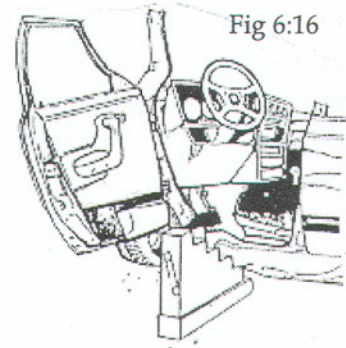

Fig 6:16
**NOTE:** This procedure should be performed on the opposite side from the patient if at all possible. To release the ram, with a view to repositioning/superimposing a larger ram or its removal, may allow the superstructure to spring back onto the front seat casualty, even though the vehicle is adequately supported by cribbing. Where the vehicle is free standing (disentangled and free of other wreckage) to place wooden wedges into the strategic cut to the base of the front door post will give additional assurance where the ram needs to be removed/replaced. Fig 6:16.